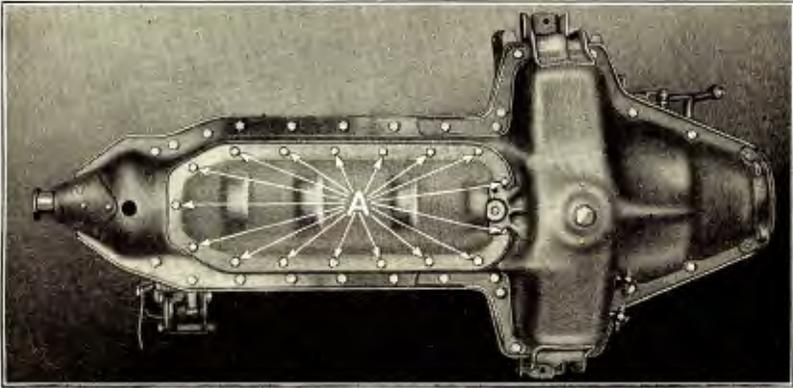

Fig. 228
- 382** Remove crankcase lower cover and gasket by running out the 17 crankcase lower cover screws which hold cover and gasket to crankcase (See "A" Fig. 228). Turn engine over with starting crank until No. 1 and No. 4 rods are at bottom center. (If the car is equipped with the old design crank case, see "f" Par. 399).